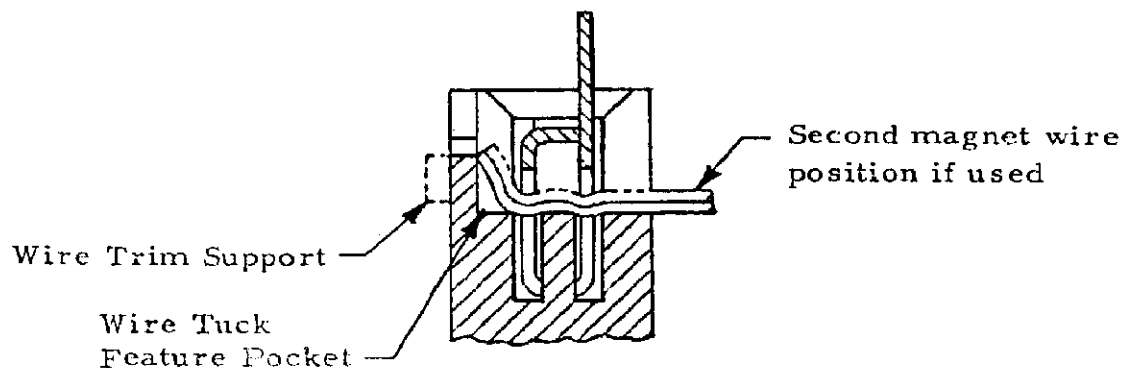

Figure 6
- B. Magnet wire shall contact the top of the cavity anvil as indicated in Figure 6 when terminals are inserted in cavity design option 2 (see Figure 3), which contains a wire trim support and wire tuck feature pocket. This cavity contains a wire trim support, on which the magnet wire rests prior to terminal insertion, and is removed during the application process. After termination the magnet wire is positioned within the confines of the wire tuck feature pocket as indicated in Figure 6.